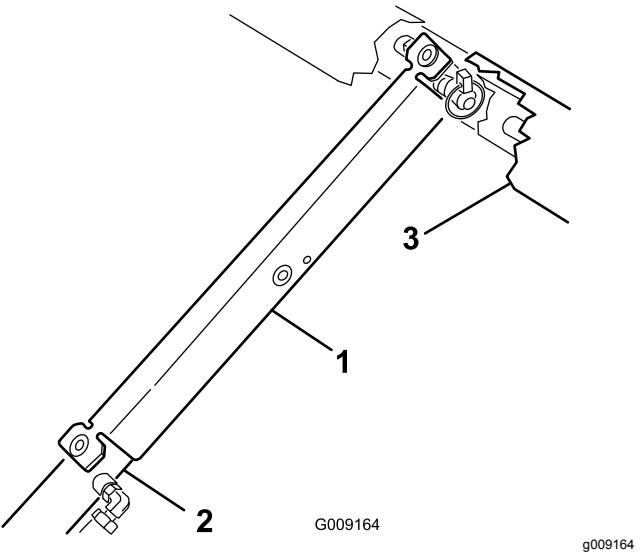

Figure 15
10. Push the bed support onto the cylinder rod, making sure that the support end tabs rest on the end of cylinder barrel and on the cylinder rod end (Figure 15).